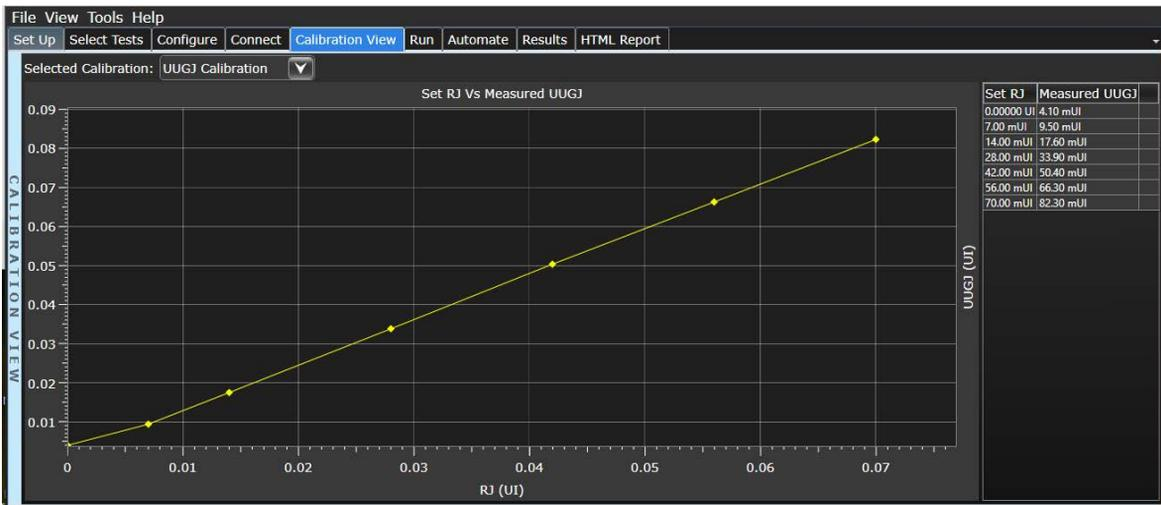

Figure 43 UUGJ Calibration calibrated data in Calibration View tab
- measured UUGJ versus the set RJ in graphical and tabular formats in the Calibration View tab (Figure 43)